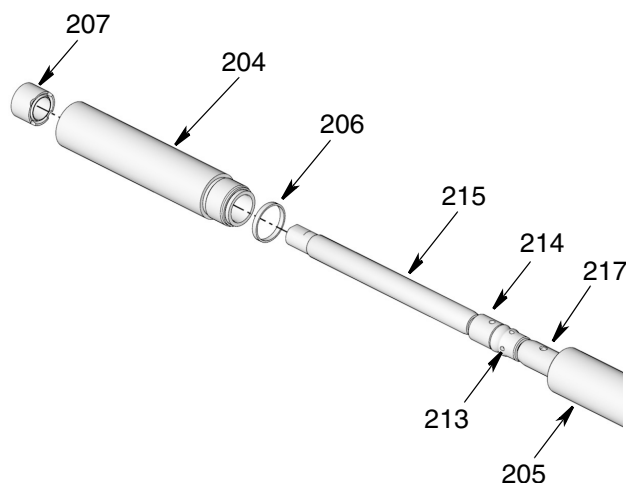
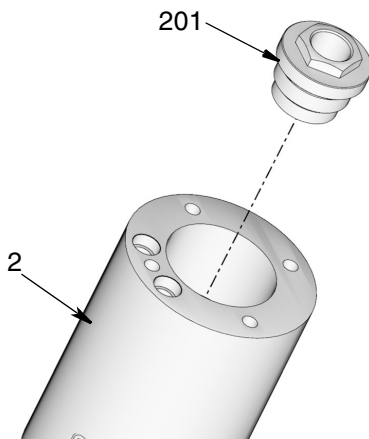

FIG. 29
FIG. 32
18. Separate pump cylinder (204) from spacer cylinder (205) using two pipe wrenches, working in opposite directions to loosen spacer cylinder. When cylinder (204) is loose enough, use your hand to unscrew and remove it from the other section (FIG. 29).
23. Separate spacer cylinder (205) from pump adapter (2) using a pipe wrench to loosen cylinder. When cylinder (205) is loose enough, use your hands to unscrew and remove it from the pump (FIG. 29).
24. Remove gasket seal (206) from inside pump adapter (2) if it did not come out with the spacer cylinder (205). Discard gasket seal. Use gasket seal included in the kit for reassembly.
25. Use a socket to loosen hex nut (201) and remove it from the pump adapter (2) (FIG. 32).